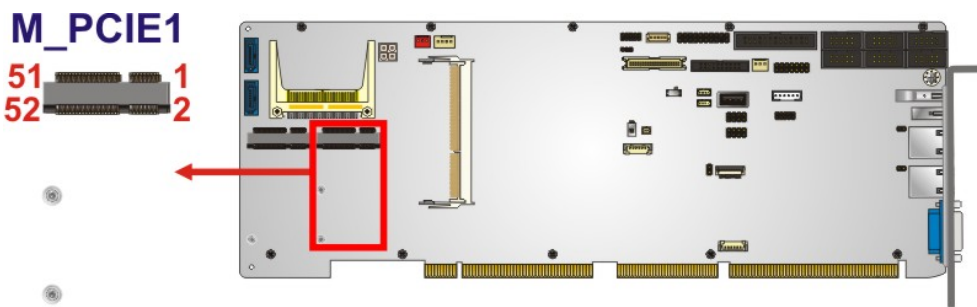

Figure 3-21: PCIe Mini Slot Location
- CN Location:** See **Figure 3-21**